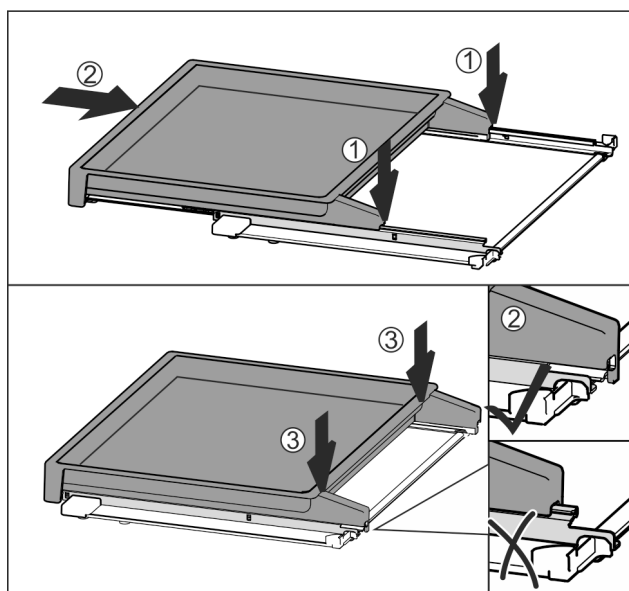

Fig. 155
- Place centrally on the rails Fig. 155 (1).
- Slide the pull-out board all the way in Fig. 155 (2).
- Press down at the back until it clicks into place Fig. 155 (3).